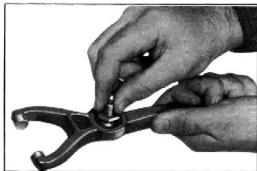

Fig. 7—Checking Fit of Ball in Throw-Out Fork
4. Check fit of the ball in the throwout fork; this should be snug without side play, Fig. 7.